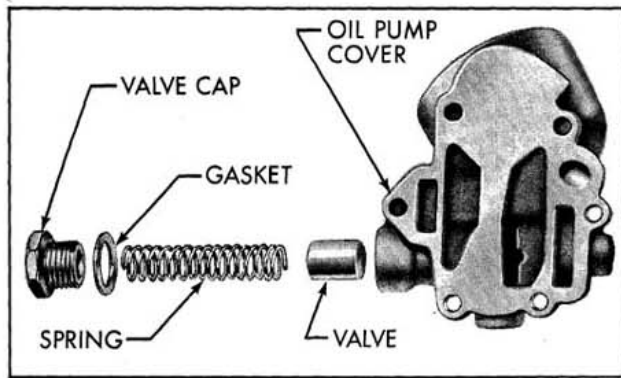

Fig. 3-23 Oil Pump Cover
2. Remove the oil pressure relief valve cap, spring and valve. (Fig. 3-23). Oil filter bypass valve and spring are staked in place and should not be removed.
1. Lubricate and install pressure relief valve and spring in bore of oil pump cover. (Fig. 3-23) Install cap and gasket. Torque cap to 35 ft. lbs. with a reliable torque wrench. Do not overtighten.